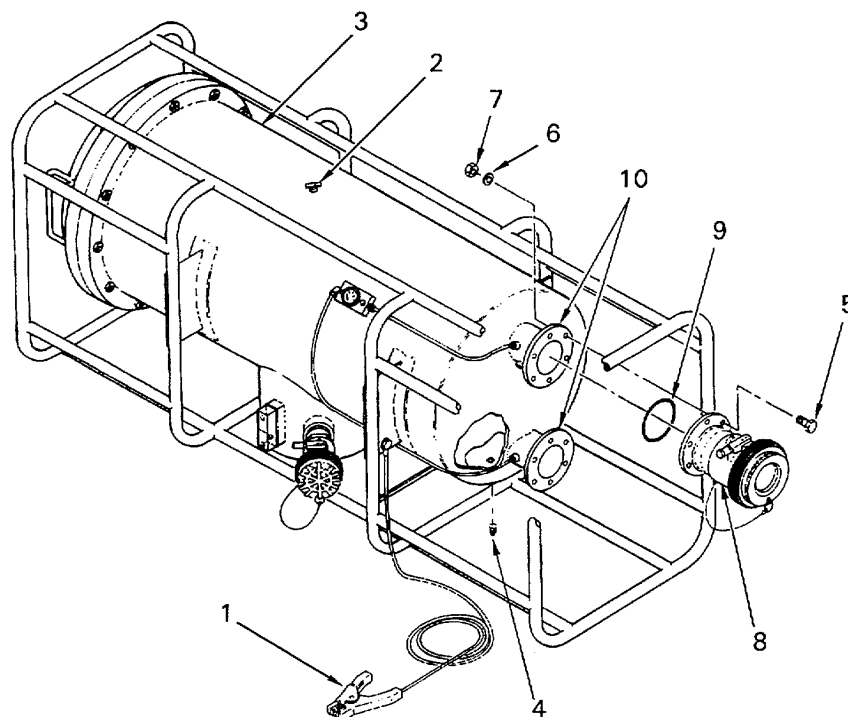

Figure 4-8. Flange Mount Three-Inch Unisex Coupling
a. Removal. (Figure4-8)
b. Installation. (Figure 4-8.)
- (1) Wipe clean the flange mount unisex coupling (8) O-ring groove.